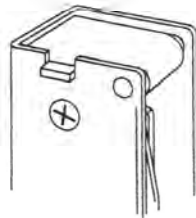
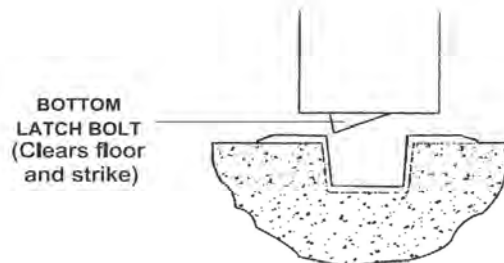

Figure 7-1
Figure 7-2
1. Depress push bar, top latch bolt should be retracted as shown in Figure 7-1, and bottom latch bolt clears floor and bottom strike as shown in Figure 7-2.